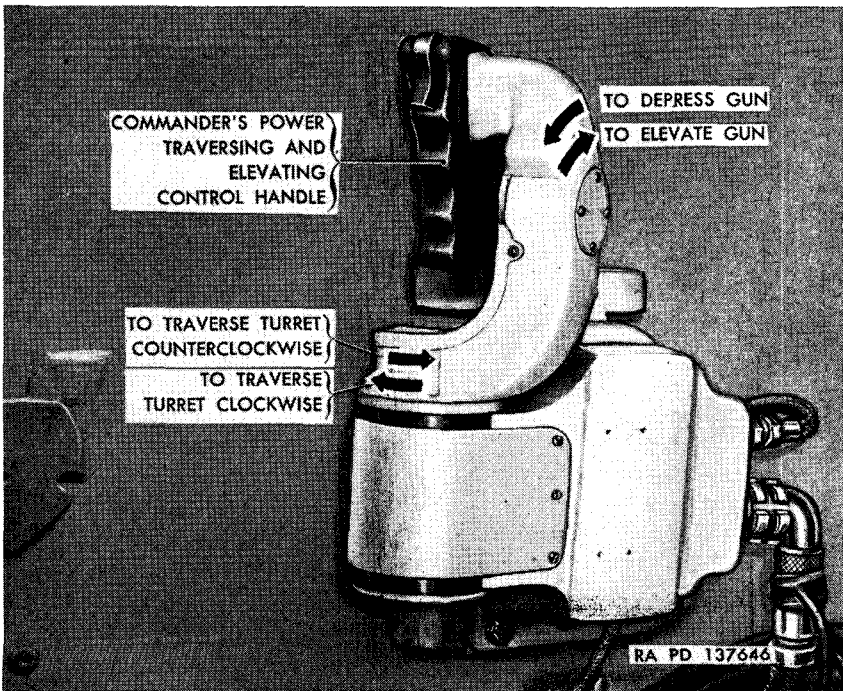

Figure 27. Operation of commander's controls.
c. OPERATING TO TRAVERSE THE TURRET. To traverse the turret clockwise, squeeze the override lever (*b* above) and turn the control handle toward the right from neutral (fig. 27). To traverse the turret counterclockwise, squeeze the override lever and turn the control handle toward the left from neutral (fig. 27). The amount the handle is turned away from the neutral position regulates the rate at which the turret traverses.
d. OPERATING TO ELEVATE OR DEPRESS THE GUN. To elevate the gun, squeeze the override lever (*b* above) and turn the top of the control handle away from neutral toward the rear of the turret (fig. 27). To depress the gun, squeeze the override lever and turn the top of the control handle away from neutral toward the front of the turret (fig. 27). The amount the handle is turned away from the neutral position regulates the rate at which the gun is elevated or depressed.
a. GENERAL. Three selector switches (*b*, *c*, and *d* below) and their respective red-jewel-indicator lights are located on the gunner's control switch panel (fig. 28). Any of the three switches can be turned on by turning the switch knob to the left, toward the "ON" position on the gun-and-turret-control-name plate (fig. 27). To turn off any of the switches, turn the knob to the right, away from the "ON" position.